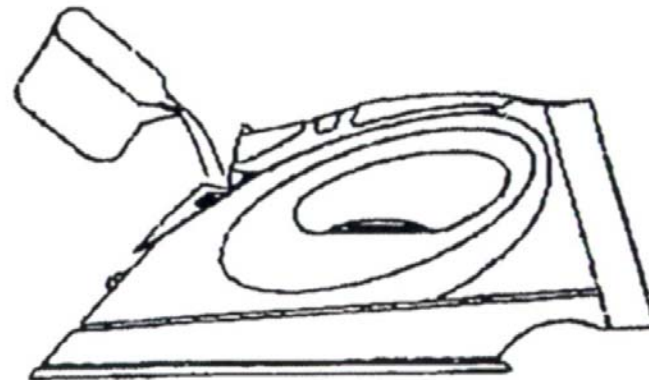

Fig. 2
- Place the iron horizontally and open the Water Filling Inlet Cover (6). Pour water into the water filling inlet (6) to a maximum of approximately 8 oz. (230ml). Use the water bottle with the spout for this purpose. (see fig. 2)
- Close the water filling inlet cover (6).